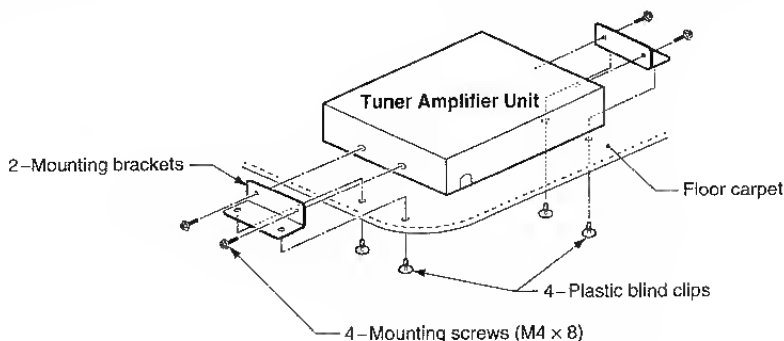

Figure 9
Before installing the tuner amplifier unit, position it considering safety and operability of the entire system. (Figure 9)
1. Attach the mounting brackets on the left and right side of the tuner amplifier unit using the attached screws (M4 × 8). (Figure 9)